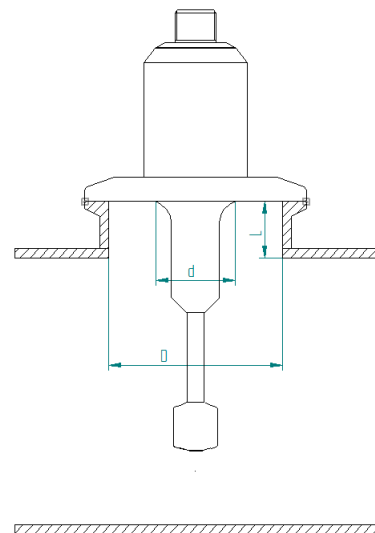

Figure 2: Example of an installation in a Tee piece. the ratio between upstand (L) and the diameter( $D - d$ ) shall be  $(D - d)/L \geq 1$
3. For tee piece installations, the ratio between upstand (L) and the diameter( $D - d$ ) shall be  $(D - d)/L \geq 1$ , (see figure 2)